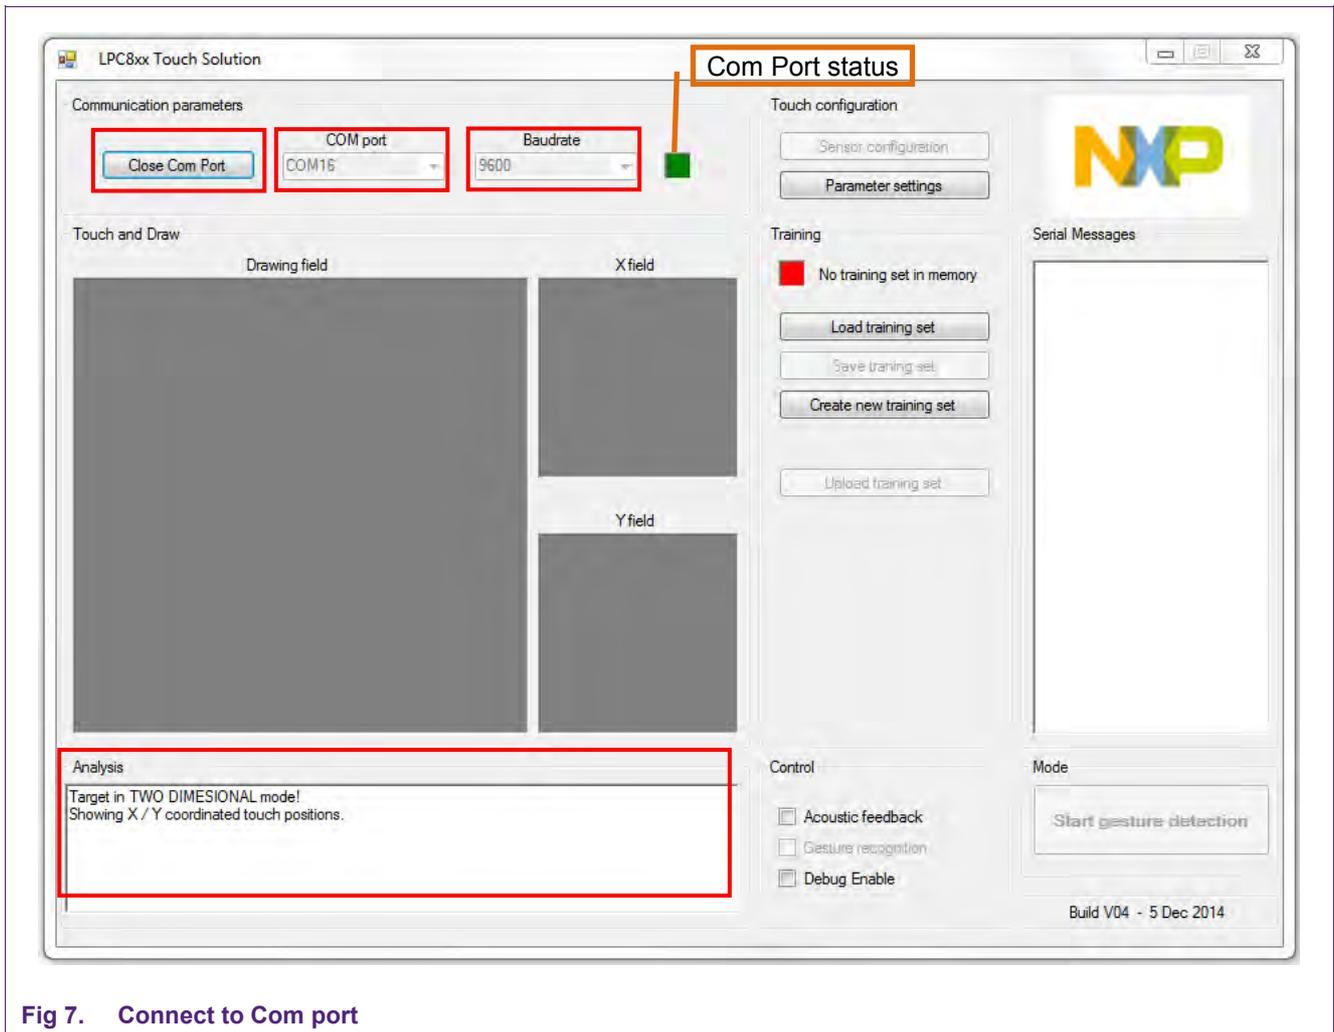

Fig 7. Connect to Com port
- Launch the LPC82x Touch solution GUI, see Fig 7.